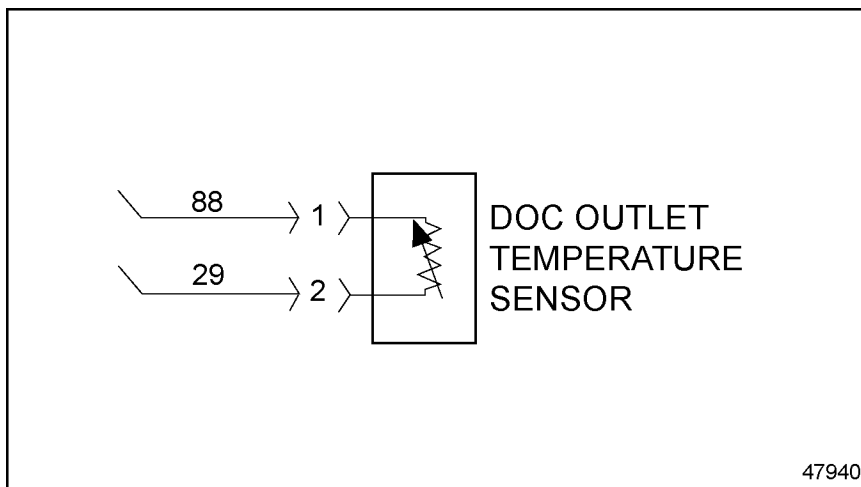

Figure 2 DOC Outlet Temperature Sensor
3. Disconnect DOC Outlet Temperature Sensor. See Figure 2.